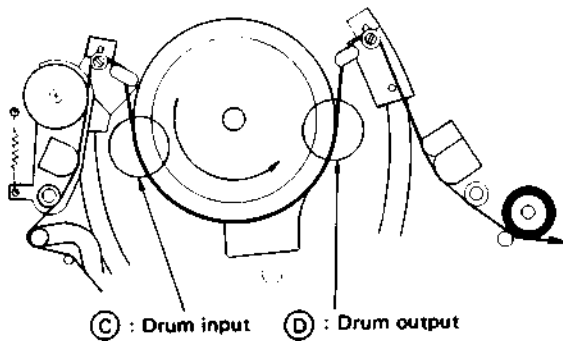

Fig. 4-29 Tape transport check
4. During Play mode, observe tape at the input and output portions ( C and D in Fig. 4-29) of the head drum lead.